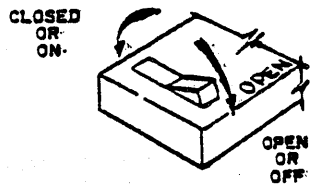

Figure C-5. Switch Polarity
5. Remove terminal hood and set configuration/mode switches on the controller board. Switches are numbered S2-1 to S2-10 (bottom to top). Switch polarity is illustrated in figure C-5.